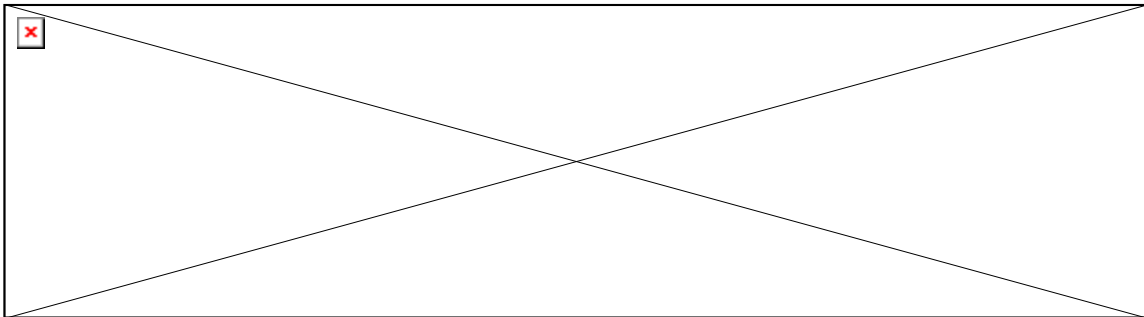

Figure 1. Schematic showing Access Holes in QBS (not to scale)
5.1.2 Through the second access hole on the +X side (see Figure 1), disconnect the telescope thermal grounds.